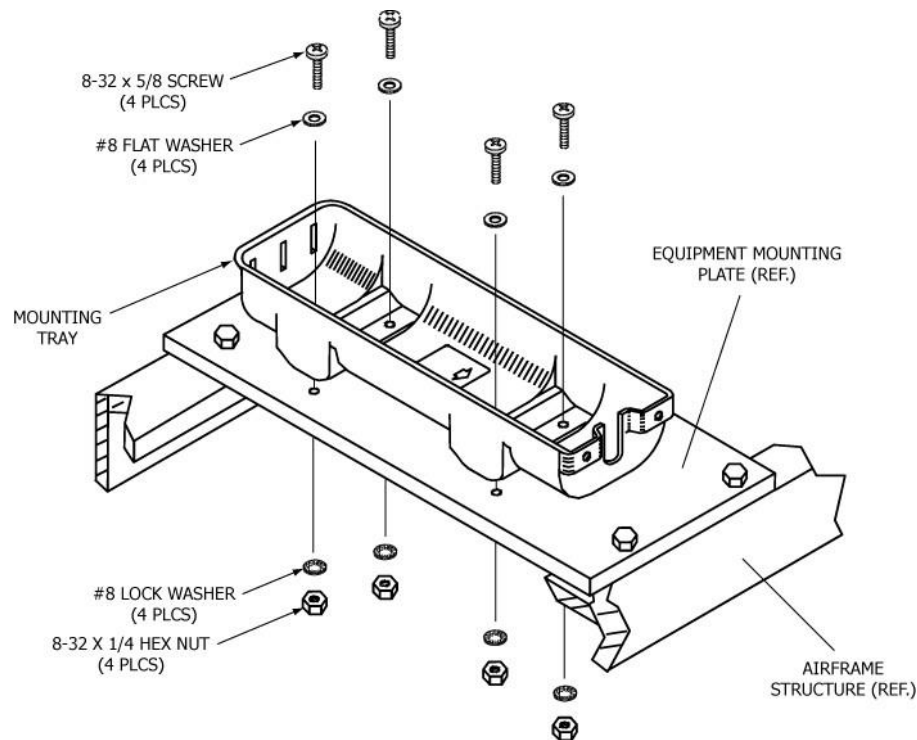

Figure 15 Typical Mounting Tray Installation
- 1) See Figure 15.
- 6) Install the mounting tray with the 8-32 x 5/8" SS pan head Philips screws, flat washers, lock washers, and nuts provided in the installation kit (455-7421), as shown in Figure 15 Typical Mounting Tray Installation.